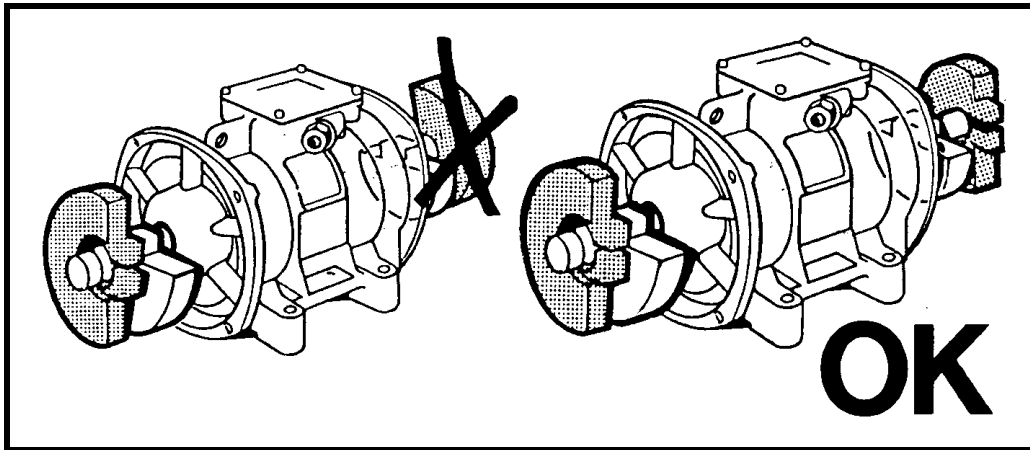

Figure 7. Setting Sets of Eccentric Weights to Mirror Images
7. Repeat steps 1 through 6 for second set of weights. Set both sets of weights to same setting number so they are mirror images, as shown in Figure 7.